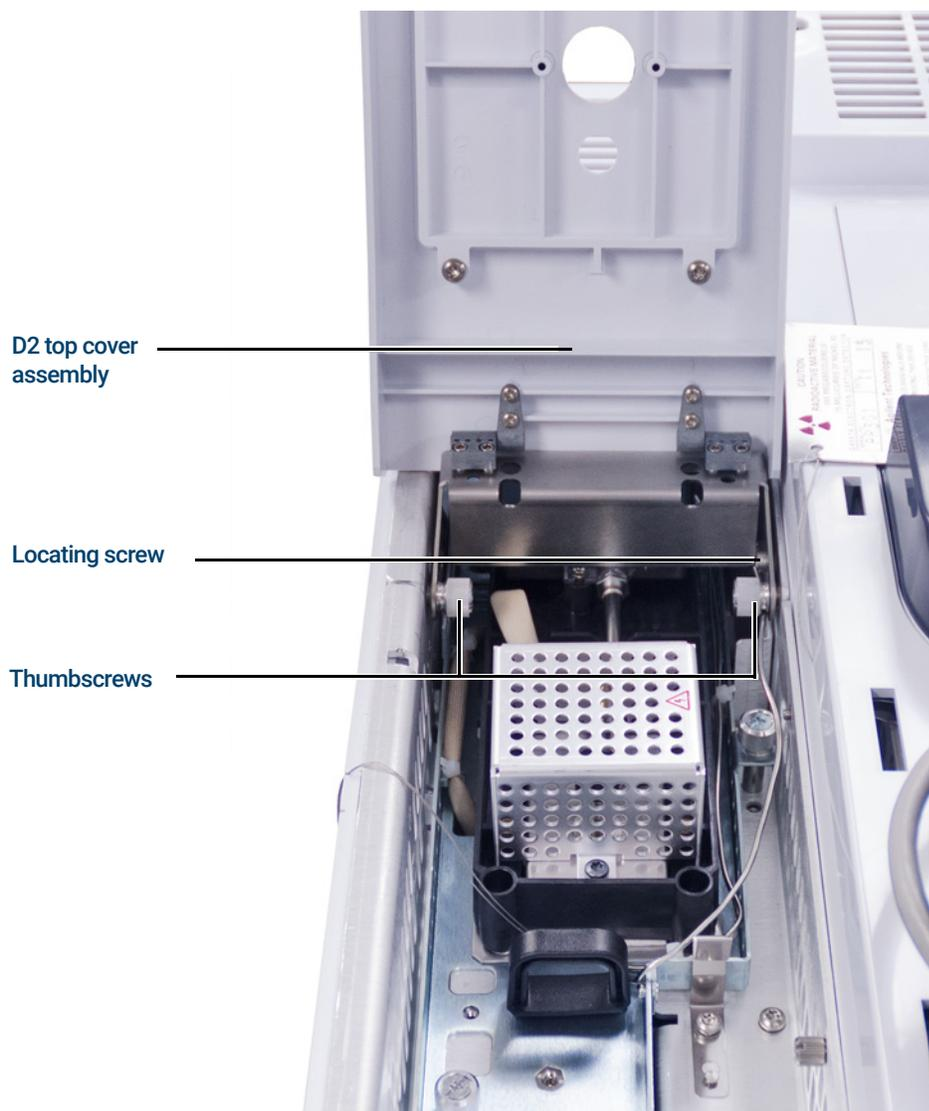

Figure 9. D2 top cover assembly
- c** Lift the front of the D2 top cover assembly. See **Figure 9**.